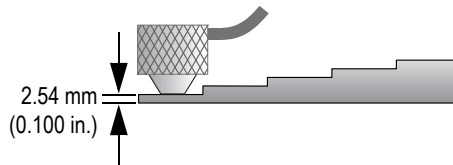

Figure 5-6 Sound velocity calibration on a five-step test block — Thin part
- b) Couple the transducer to the thin part of the test block (see Figure 5-6 on page 58), and then press **[CAL ZERO]**.